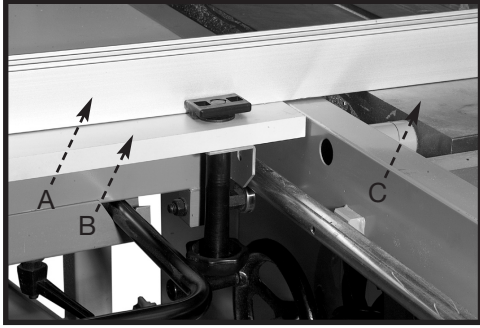

Fig. 56
1. Place a straight edge or the fence (A) Fig. 56 over the sliding table (B) and machine table (C).
2. The sliding table (B) Fig. 56 should be parallel with the machine table (C).